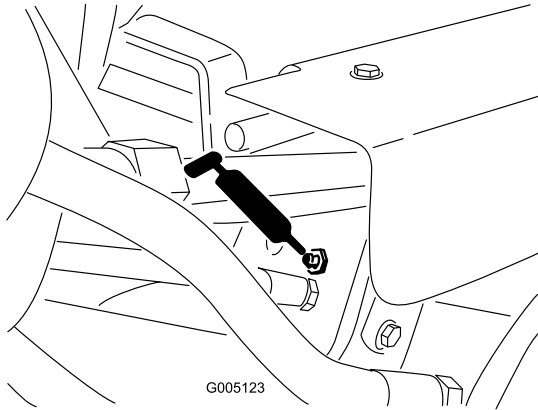

Figure 34
- Lift cylinders (3) (Figure 34)